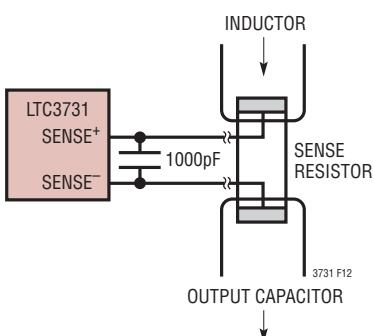

Figure 12. Kelvin Sensing  $R_{SENSE}$
- 3) Are the  $SENSE^-$  and  $SENSE^+$  printed circuit traces for each channel routed together with minimum PC trace spacing? The filter capacitors between  $SENSE^+$  and  $SENSE^-$  for each channel should be as close as possible to the pins of the IC. Connect the  $SENSE^-$  and  $SENSE^+$  pins to the pads of the sense resistor as illustrated in Figure 12.